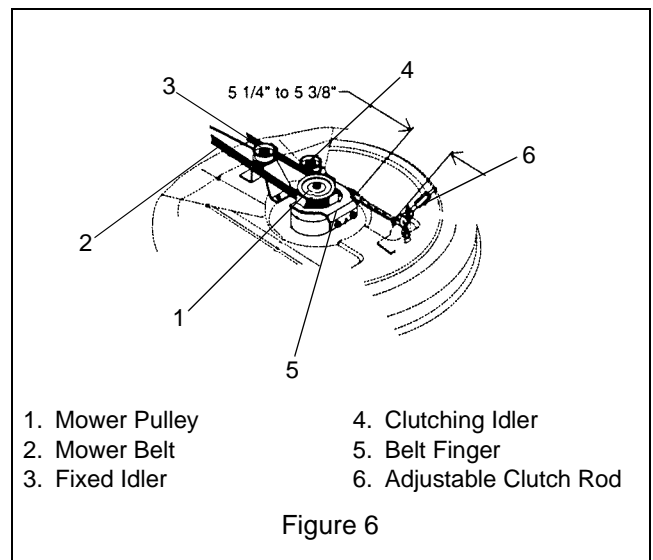

Figure 6
1. The 32" mower belt clutch rod should be adjusted so the compressed spring length is from 5-1/4" to 5-3/8" (13.3 to 13.6 cm) when belt is engaged (Figure 6).